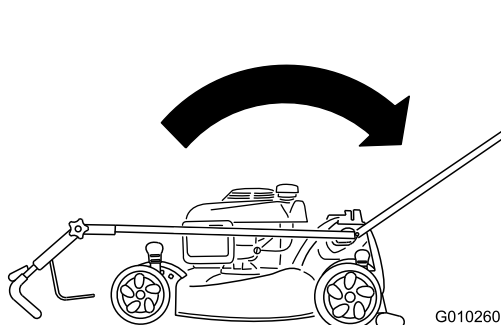

Figure 3
1. Move the handle rearward and hold the upper handle in place (Figure 3).